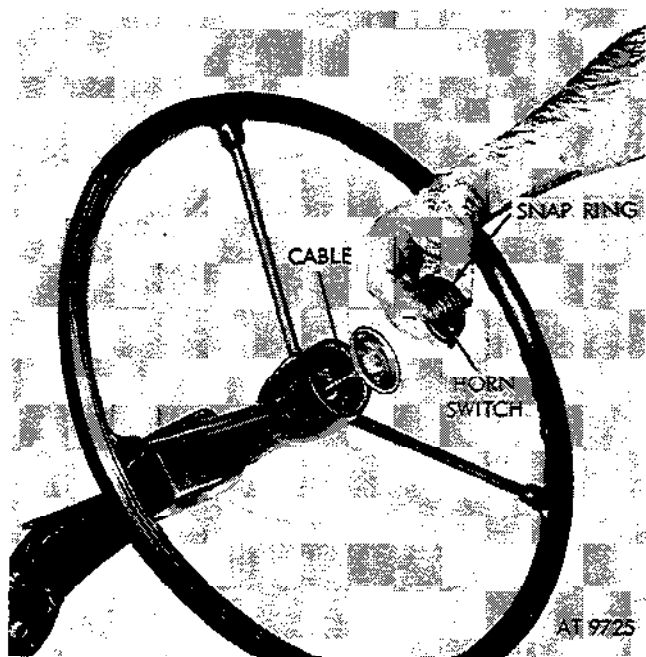

Figure 2-287. Remove horn switch and cable from steering column.
(3) Use suitable tool and remove horn switch snapping. Pull horn switch and cable from steering column (fig. 2-287).
(4) Remove grommet from lower end of steering column.